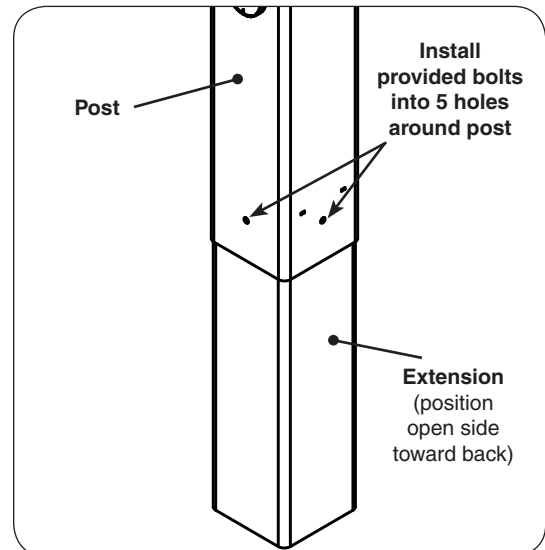

Fig. 19-1 Install extension to post
1. Attach the extension to the bottom of the grill post so that the open portion is toward the back of the grill and the five holes in the extension line up with the five (5) weld-nuts in the post (see Fig. 19-1).